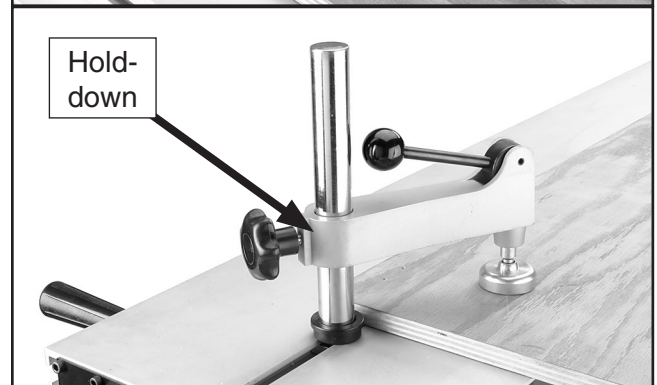

Figure 52. Edge shoe and hold-down placement.
6. When ripping irregular shaped stock, wedge the leading edge under the edge shoe (**Figure 52**), slide the hold-down into place as shown in **Figure 52**, and clamp the stock firmly.